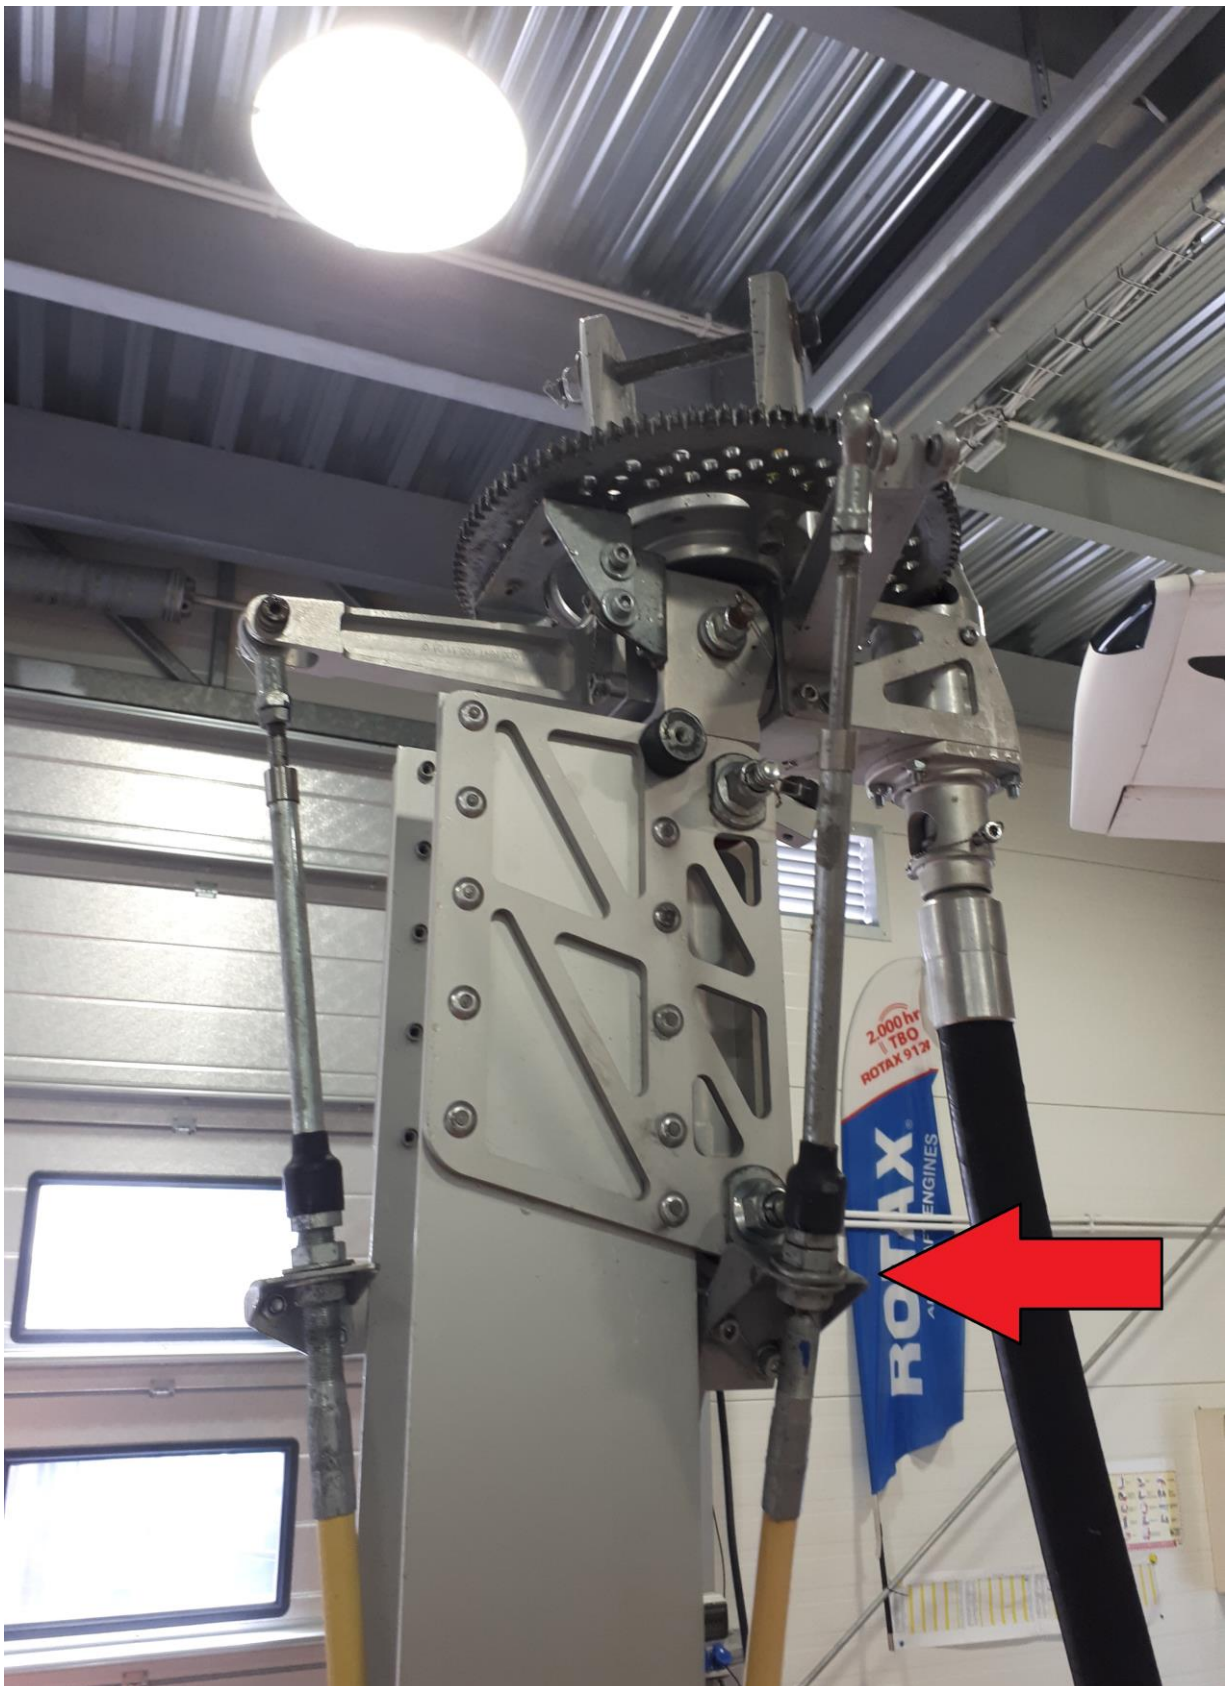
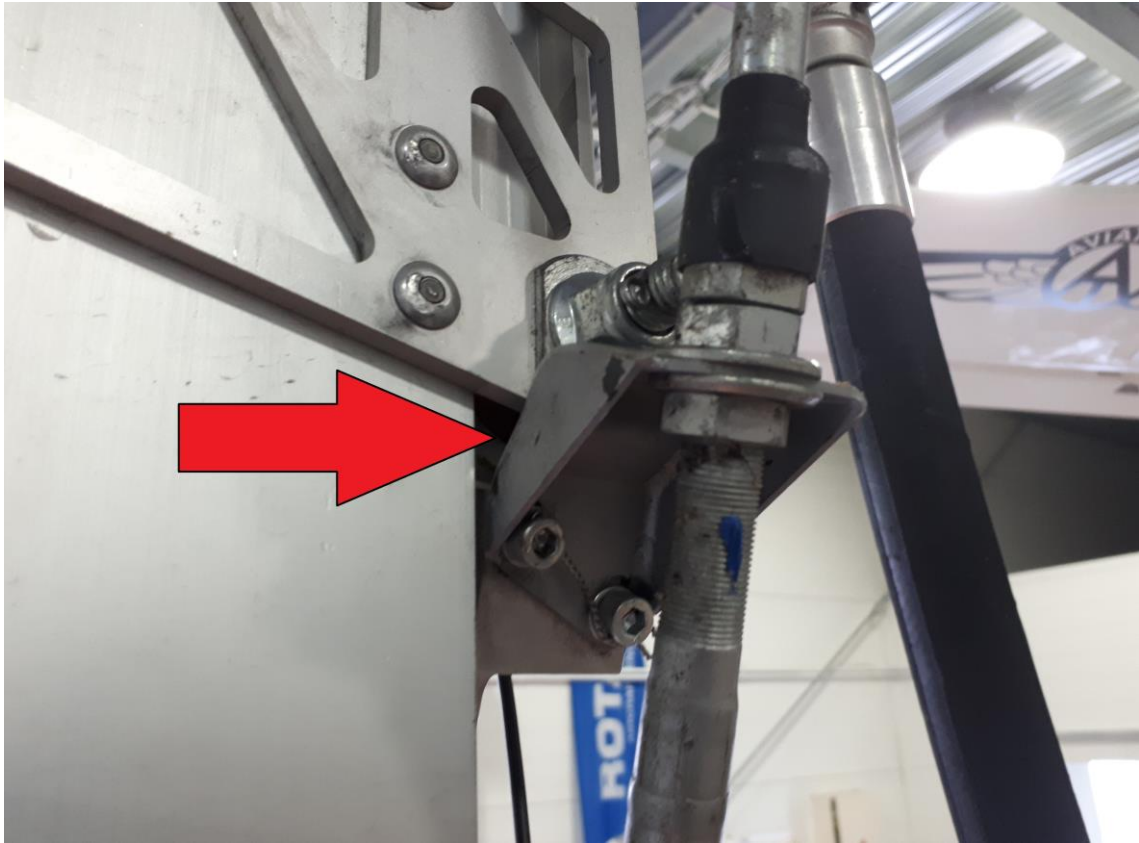

Fig. 1
Fig. 2
- 1) Check the holder in gyrocopter. Holder to be replaced is shown on pictures below [Fig. 1] and [Fig. 2].